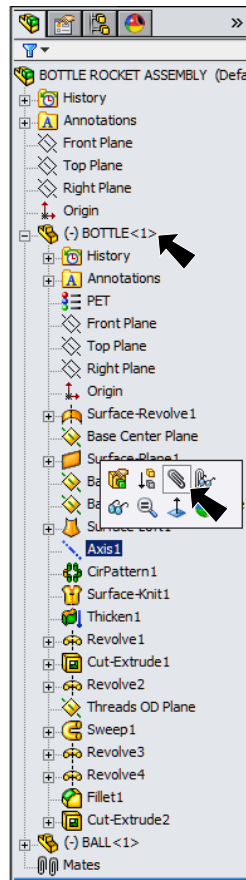

Fig. 8
Step 1. Expand **Bottle** in the Feature Manager. Click **Axis1** and **Mate**  on the Context toolbar, **Fig. 8**.